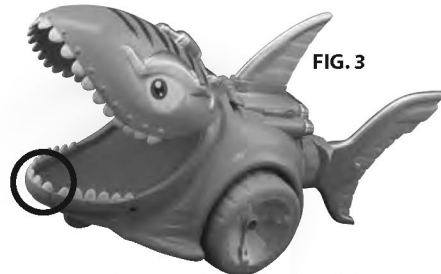

FIG. 3
3. Run into small objects to watch your shark chop down on them. There is a button on the shark's bottom mouth (Fig. 3). Once an object hits the button, its mouth will close. Press the up button on the remote control to move the shark forward and the mouth will open up again.